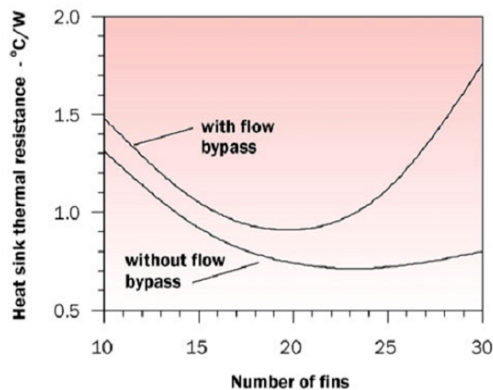

Fig.5 Fin density builds on heat sinks Vs. Thermal resistance
- Increasing the heat transfer surface by fins at heat sink, but fins can reduce the air flow pressure. Thermal designer need select optimized density pins of heat sink. (See Fig.5)